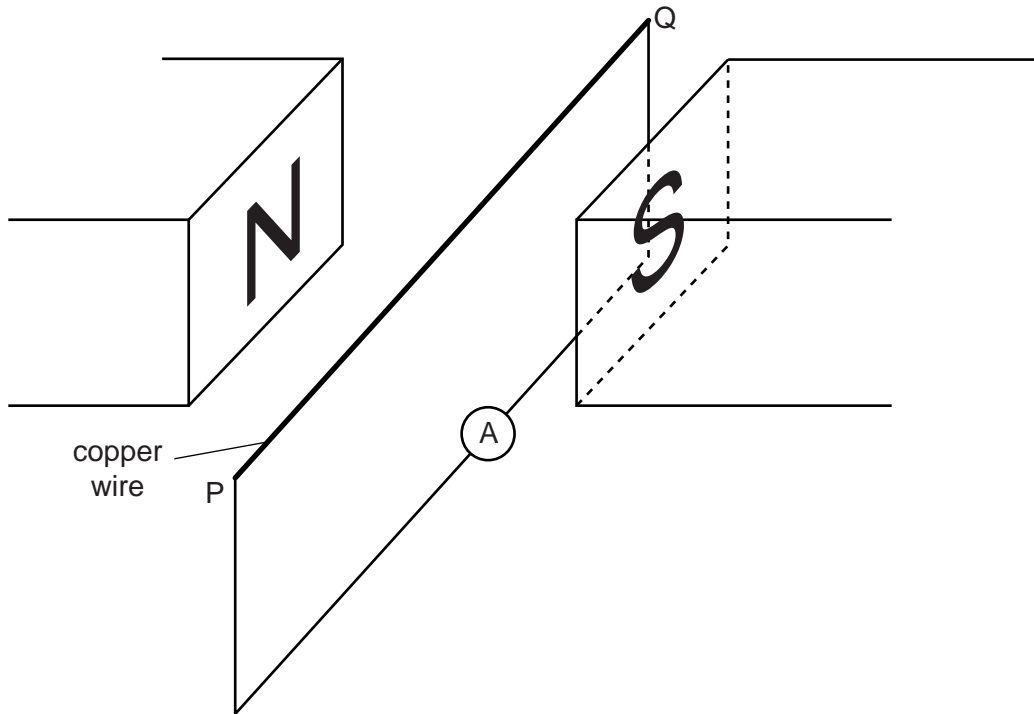

Fig. 10.2
- (b) Fig. 10.2 shows a horizontal copper wire PQ between two opposite magnetic poles.